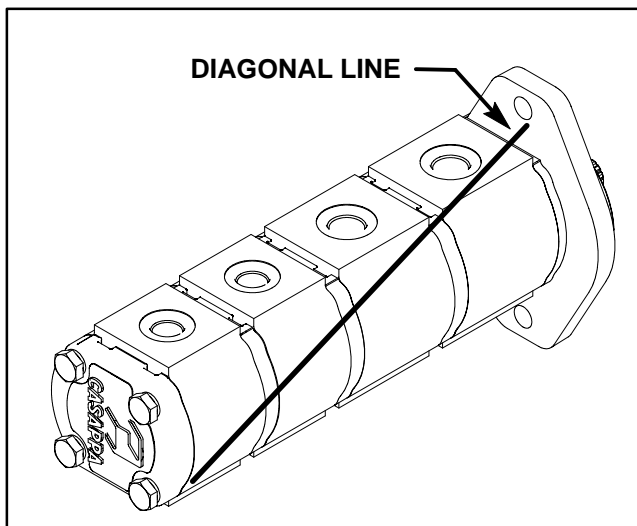

Figure 59
2. Use a marker to make a **diagonal** line across the gear pump for assembly purposes (Fig. 59).